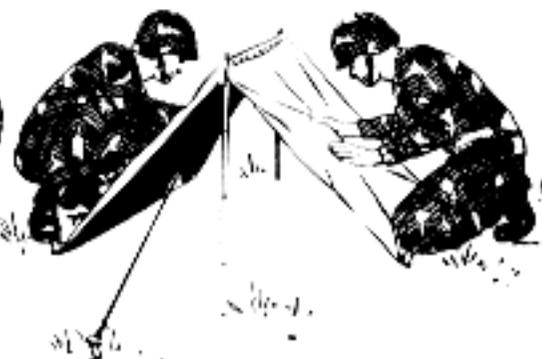

Figure 3-10. Pitching the two-person tent.
**Pitching the Two-Person Tent.** Two people can pitch the two-person tent in 5 minutes. Figure 3-10 shows how to do this.